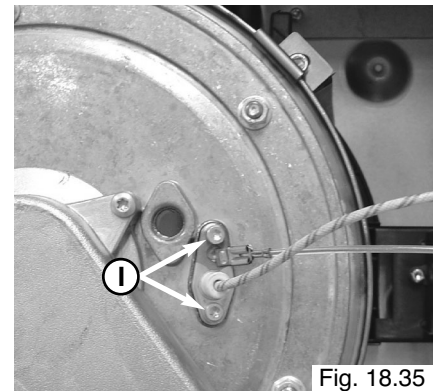

Fig. 18.35
4. Unscrew the 2 screws "I" on the electrode (Fig. 18.35);